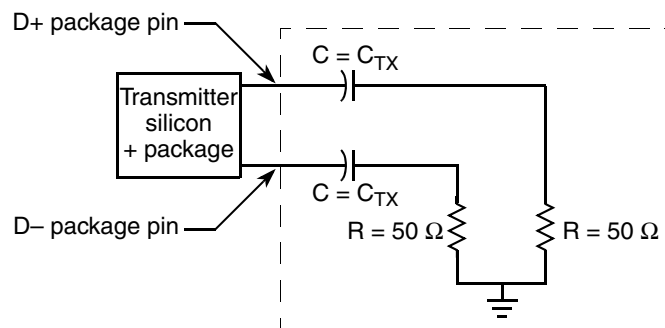

Figure 43. Test/Measurement load
1. Specified at the measurement point into a timing and voltage test load as shown in Figure 43 and measured over any 250 consecutive transmitter UIs.
- Specified at the measurement point into a timing and voltage test load as shown in Figure 43 and measured over any 250 consecutive transmitter UIs.
- Specified at the measurement point and measured over any 250 consecutive UIs. The test load in Figure 43 must be used as the receiver device when taking measurements. If the clocks to the receiver and transmitter are not derived from the same reference clock, the transmitter UI recovered from 3500 consecutive UI must be used as a reference for the eye diagram.
2. Total jitter is composed of three components: deterministic jitter, random jitter, and single frequency sinusoidal jitter. The sinusoidal jitter may have any amplitude and frequency in the unshaded region of Figure 43. The sinusoidal jitter component is included to ensure margin for low frequency jitter, wander, noise, crosstalk and other variable system effects.